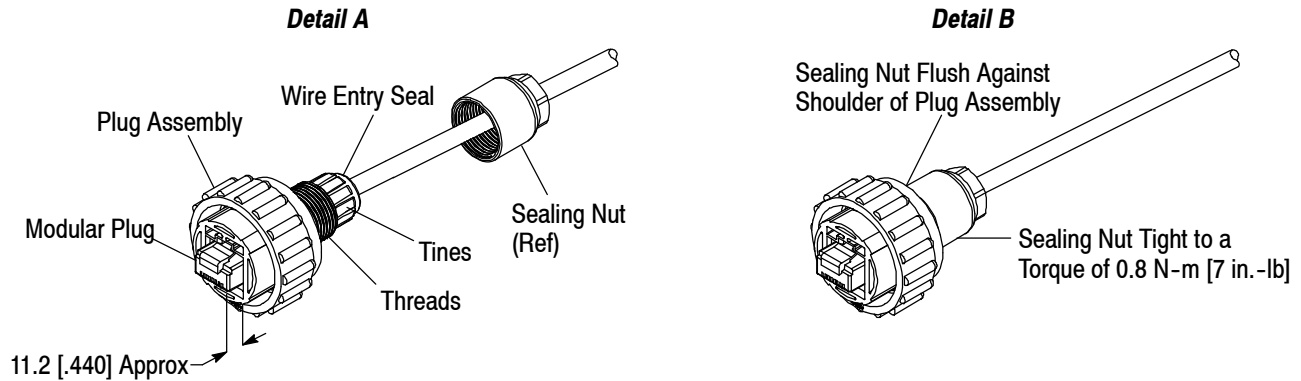

Figure 8
1. The modular plug must be fully seated in the plug assembly with the modular plug protruding from the mating face of the plug assembly to the dimension given in Figure 8, Detail A.
3. The sealing nut must be flush against the shoulder of the plug assembly and must be tight to the torque given in Figure 8, Detail B.